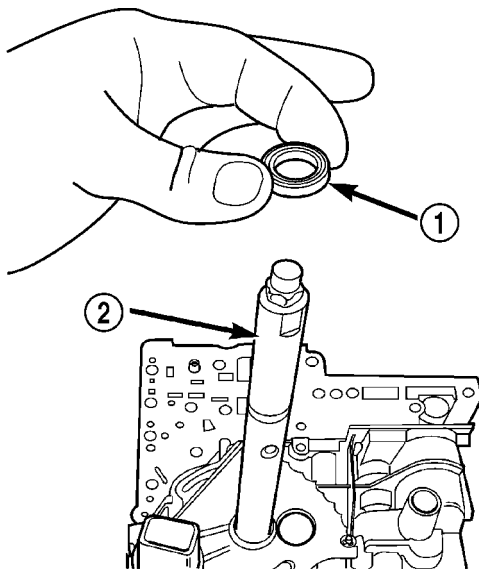

Fig. 317 Manual Shaft Seal
- (1) Remove manual shaft seal (Fig. 317).